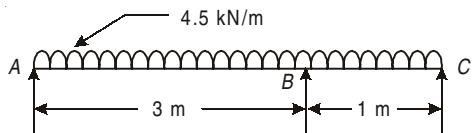

Fig. 13
55. Draw S.F. and B.M. diagrams and find the position of point of contraflexure for the overhanging beam shown in Fig. 13.